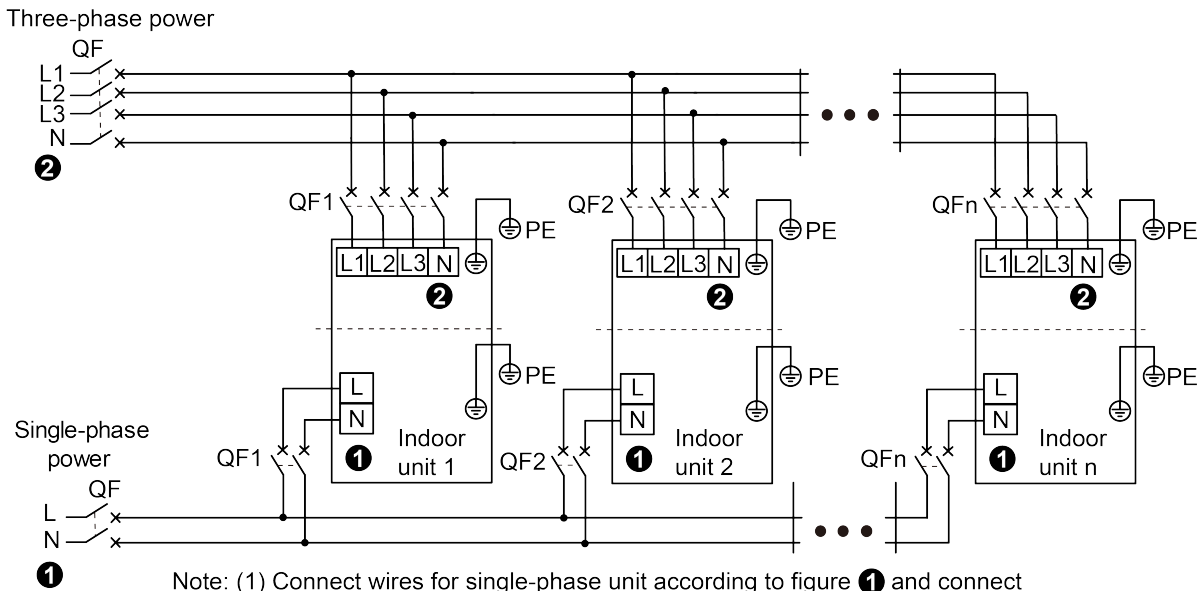

Fig.5.2
- (1) Detach the electric box lid.
- (2) Let the power cord pass through the wiring through-holes.
- (3) Connect wires according to Fig.5.2.
- (4) Fix the power cord with wiring clamp.